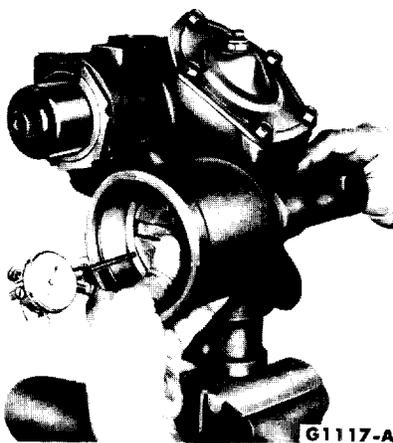

FIG. 8—Piston Backlash Check
4. After raising the car, disconnect the Pitman arm from the sector shaft, using the tool shown in Fig. 8, Part 7-1.
a. Position a dial indicator against the piston. Locate the dial indicator shaft on the machined surface at the OD of the piston, and set it at zero (Fig. 8).
b. While holding the sector shaft firmly, push the piston by hand as far as it will go (Fig. 8). Maintain this